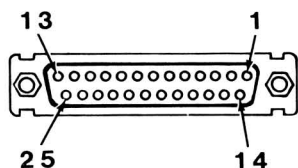

Figure 12-6. External Disk Drive Connector
**External Disk Drive Connector** — This connector provides the signals necessary to connect an external disk drive to the computer. Refer to Figure 12-6 and Table 12-4 for the pinout.